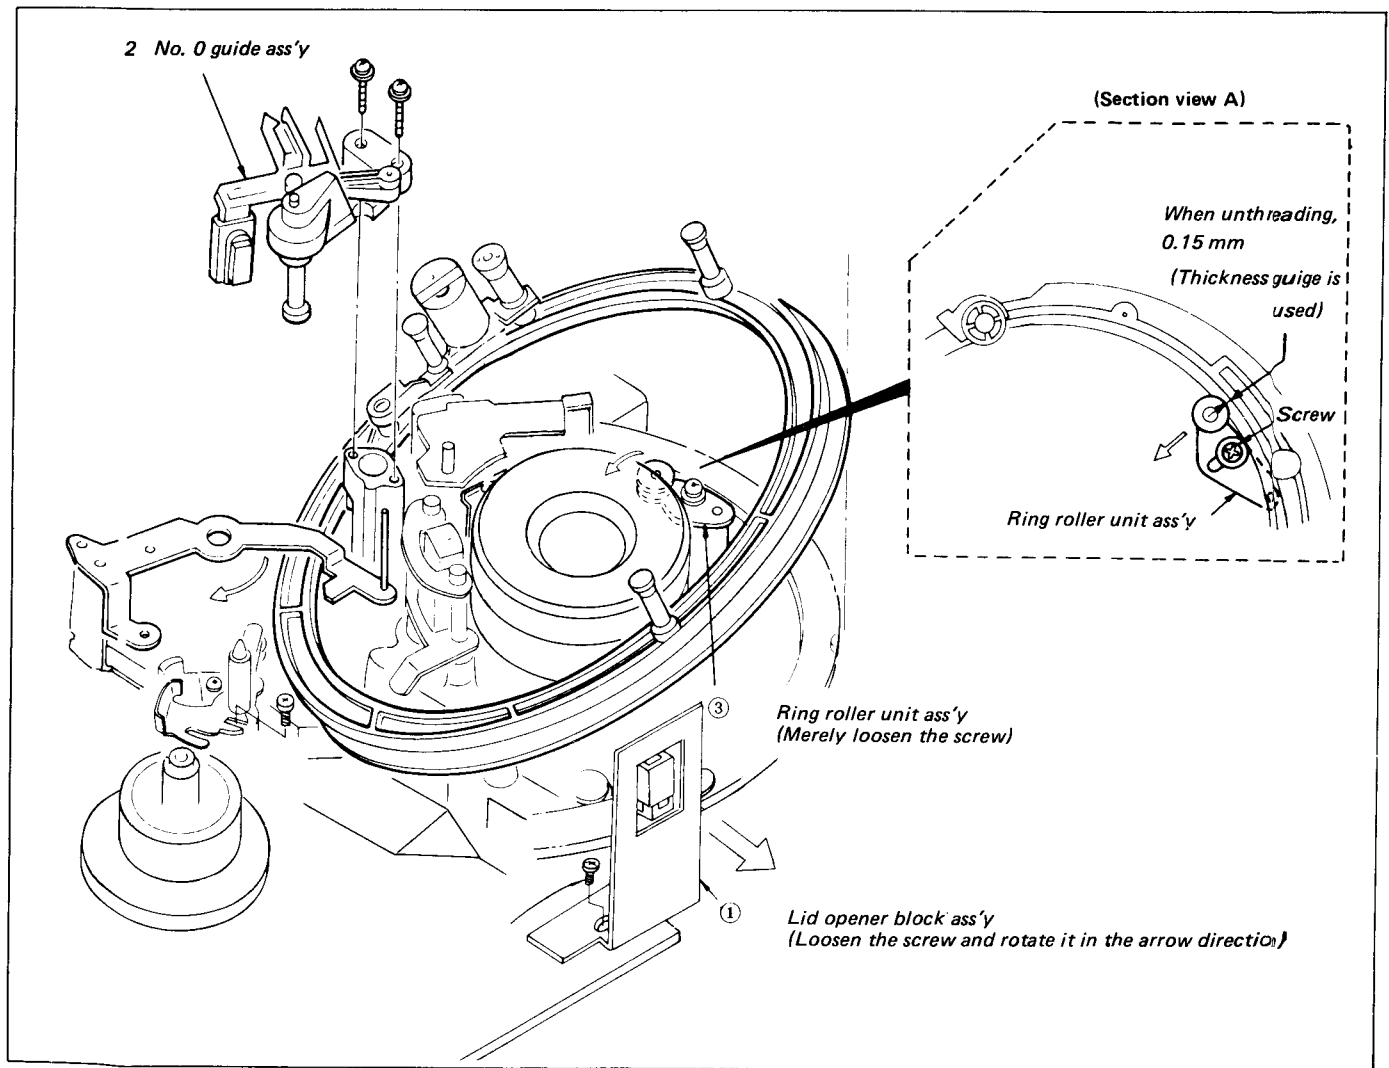

Fig. 3-11. Replacement of Threading Ring Assembly
- (1) Turn the threading ring to a point immediately before the threading completion position by hand.
- (2) Perform procedures ① to ③ shown in Fig. 3-11.
- (3) Remove the threading ring while moving the tension regulator arm assembly in the arrow direction by holding its lower section.
- (4) Perform the adjustment of No. 0 guide section assembly ② and ring roller unit assembly ③ after replacement.
- (i) Perform procedure ③ of this section.
- (ii) As to the adjustment of the roller unit assembly ③, perform adjustment, referring to detail view A in Fig. 3-11.
- (5) Perform the threading and unthreading several times and confirm the smooth movement of the threading ring.
- (6) Adjustment after the mounting of No. 0 guide section assembly.